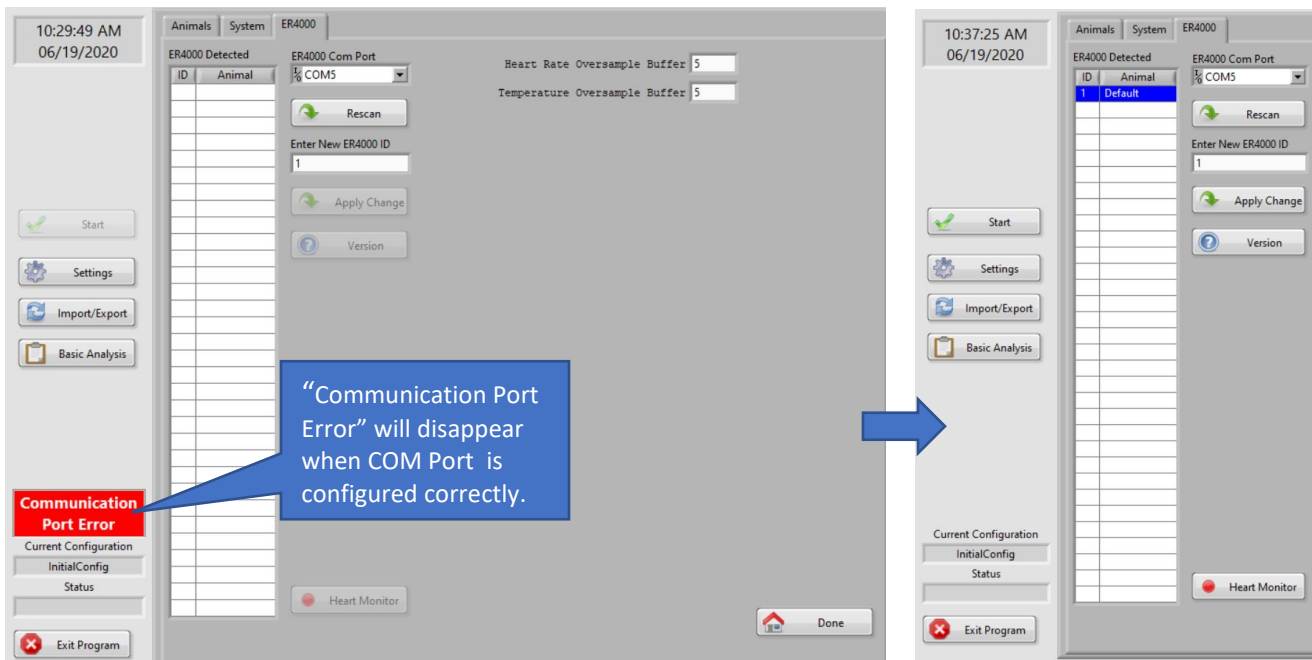

Fig 3-3
- I. Click Settings button then select “ER4000” tab (Fig 3-3)